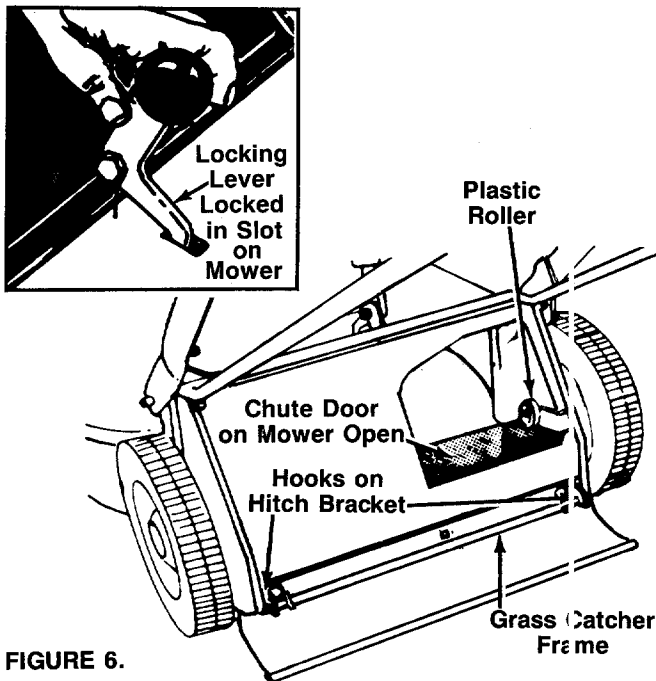

FIGURE 6.
1. Attach the grass catcher frame to grass catcher hitch bracket on rear of the mower by hooking grass catcher into hooks on grass catcher hitch bracket. See figure 6.
2. Lift the rear of grass catcher up. The roller on the grass catcher will push the chute door on the mower open. See figure 6.
NOTE: Figure 6 is shown with the chute door open for clarity only.
3. Move the locking lever forward and hook in slot on mower. See figure 6, inset.